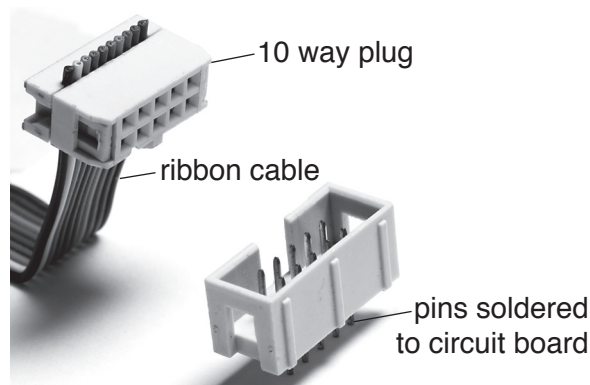

Fig. 18
- (c) Fig. 18 shows a method of connecting a number of wires on a ribbon cable to a circuit board.